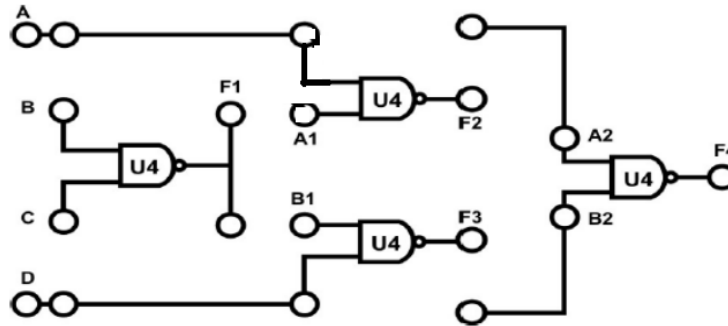

Figure 1.12: KL-33002 NAND Gate Block.
- a) Set module KL-33002 and locate (block b) gate as shown in Figure 1.12. Connect the +5V of module KL-33002 to the +5V output of the fixed power supply KL-31001 and do the same for the ground (GND).
- b) Then select the first gate in Figure 1.12. Connect A and A1 in block a with Data switch SW0 and SW1 TTL level in the power supply sequentially and connect output F2 with Logic Indicator L0 in the power supply. write the result in Table 1.6.